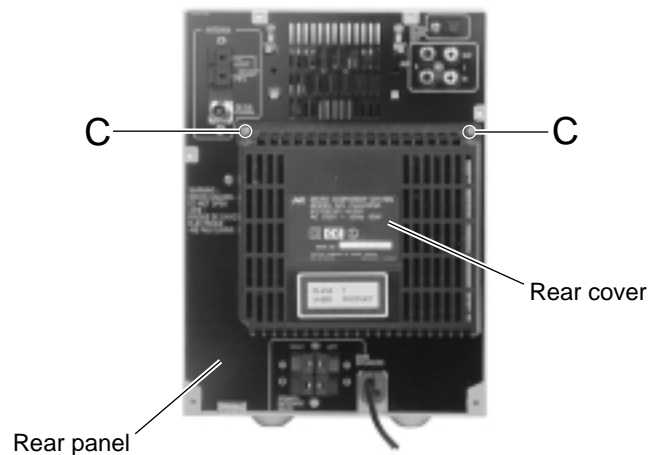

Fig.3
■ Removing the rear cover (See Fig.3)